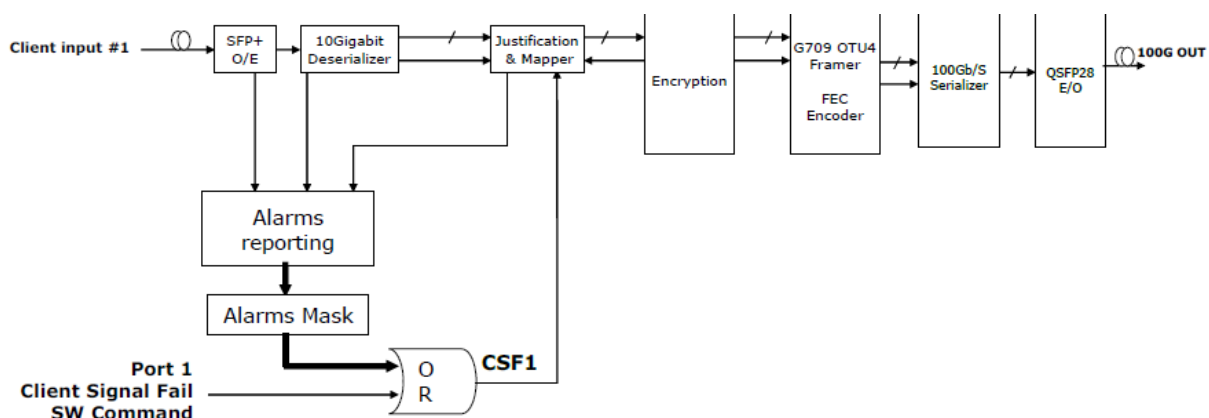

Figure 3: Upstream Client Signal Fail assertion principle.
- Client Signal Fail indication: a bit in the mapping frame is set in case one of the following conditions are present on the incoming signal (see Figure 3)